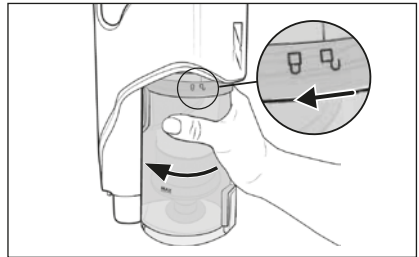

Fig. 17
- 2) To remove the dust container 7 from the appliance, turn it towards the symbol  (open) until it can be detached from the appliance (see Fig. 17).